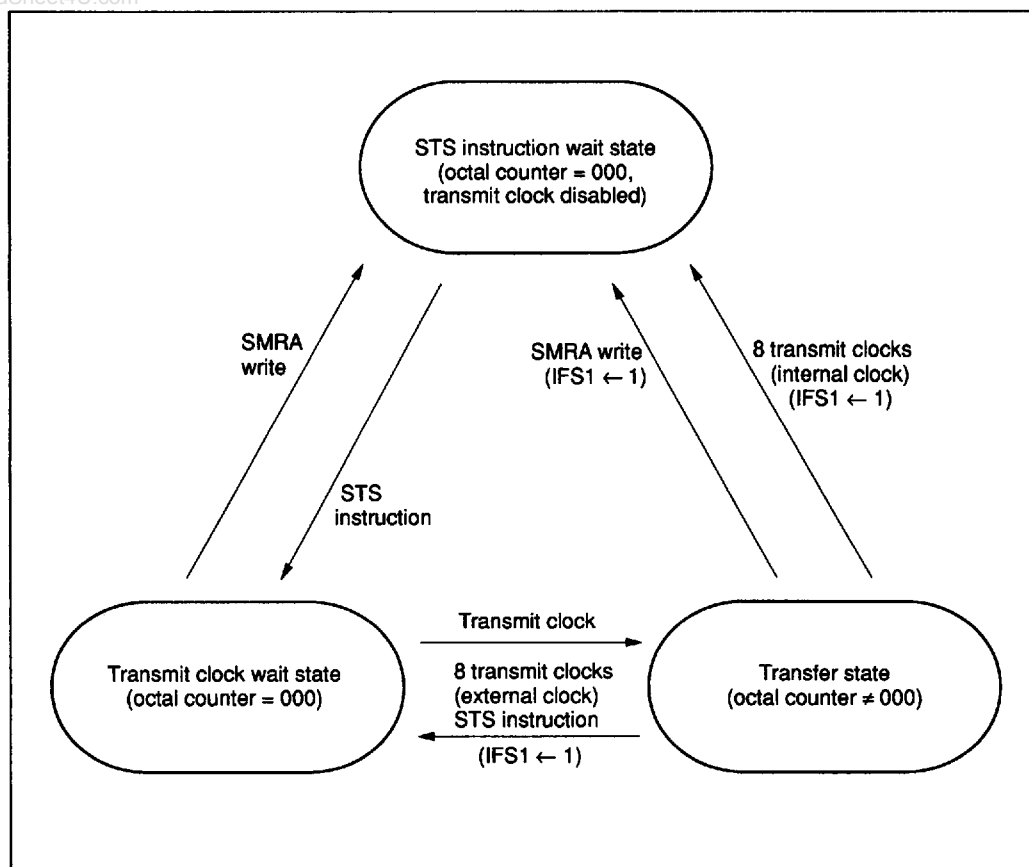

Figure 35 Serial Interface 1 Mode Transitions
**Serial Interface 1 Operation:** Three operating modes are provided for serial interface 1; transitions between them are shown in figure 35.